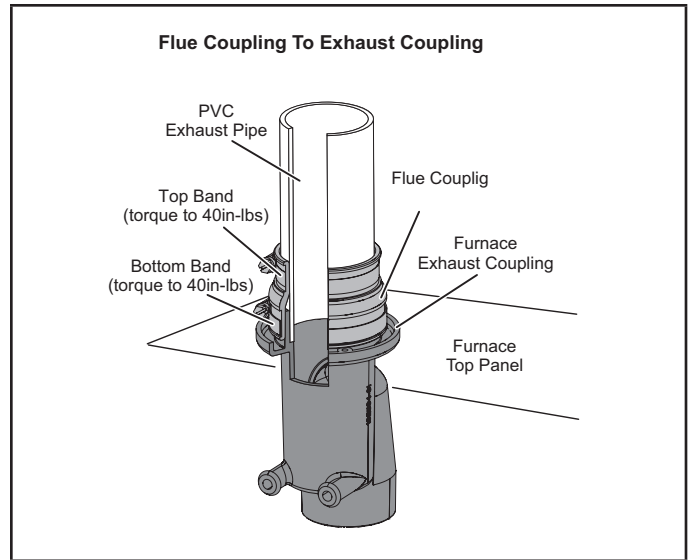

FIGURE 25
Exhaust Piping (FIGURE 25 and FIGURE 27)
The provided flue coupling must be attached to the exhaust coupling on the furnace top panel. Use provided bands. See steps below and FIGURE 25.
- 3 - Insert PVC exhaust pipe through flue coupling. Ensure vent pipe is fully seated into exhaust coupling. Tighten both top and bottom bands to 40 in lbs. See FIGURE 25. **Do not use glue flue.**